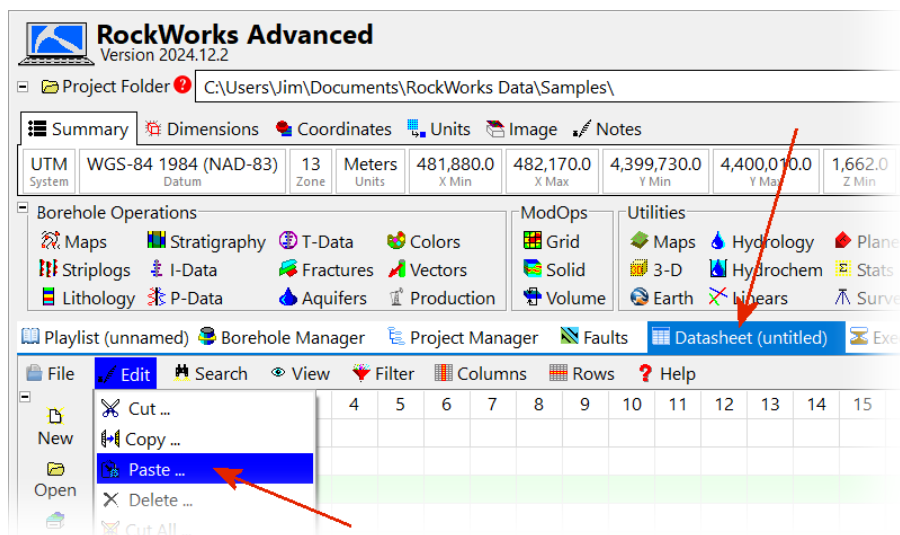

Figure 5
- Click on the Datasheet tab and select the Edit / Paste option (Figure 5). This will copy the contents of the Windows Clipboard into the RockWorks Datasheet.